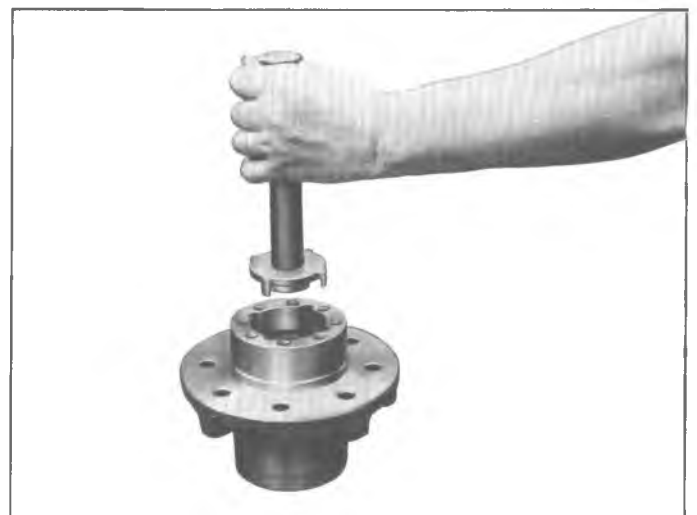

Fig. 66—Removing Outer Bearing and Cup
3. With J-24426 on Handle J-8092, as shown in figure 66, drive **outer** bearing and cup from the hub assembly.
5. Drive cup back **against** snap ring by using J-24426, as shown in figure 66.